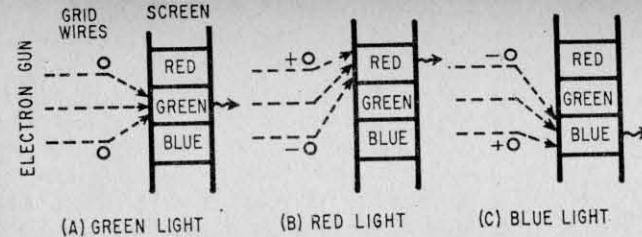

Fig. 5. Applying voltages to pairs of grid wires focuses the electron beam on one of the three phosphor screen stripes.
In Fig. 5 is a portion of the screen viewed from the top. Shown are three possible beam
positions for producing primary colors. Consider, first, Fig. 5 (A). Green is being produced, as just described; the beam passes through the grid wires and strikes the green phosphor. Now let's apply an electrical charge to the pair of grid wires. If the upper wire, shown in Fig. 5 (B) is impressed with a positive charge, it will attract the electron beam (which is negative) in the direction shown. A negative charge placed on the lower wire aids this direction by repelling electrons. Thus, the overall effect is to deflect the beam toward the red phosphor. The final example, Fig. 5 (C), simply reverses the charge on the grid wires and the beam now strikes the blue phosphor stripe. It should be apparent that by placing the proper electrical charges on the grid, the beam can be angled to select any of the three primary colors.